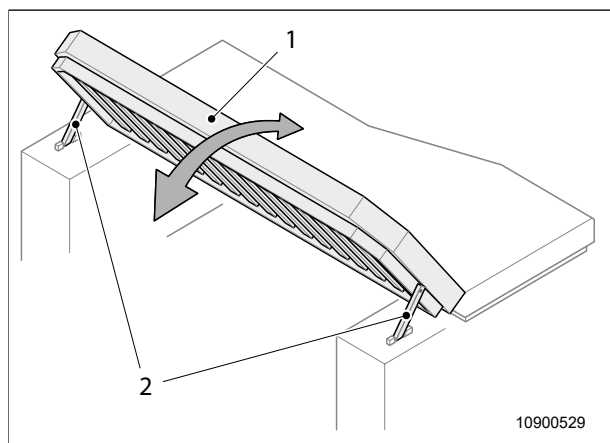
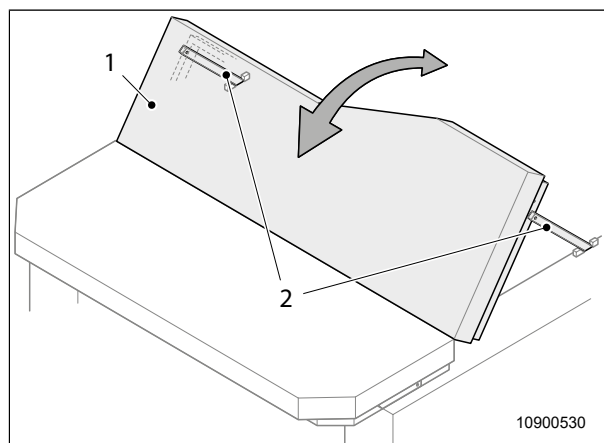

Fig. 33 Lounge function 1
Fig. 34 Lounge function 2
1. Fold up the desired bed frame (Fig. 33, item 1, or Fig. 34, item 1) of the double bed.
2. Fold up the supports (Fig. 33, item 2) and secure them.
1. Fold down the supports (Fig. 33, item 2).
2. Fold down the bed frame (Fig. 33, item 1, or Fig. 34, item 1) of the double bed.